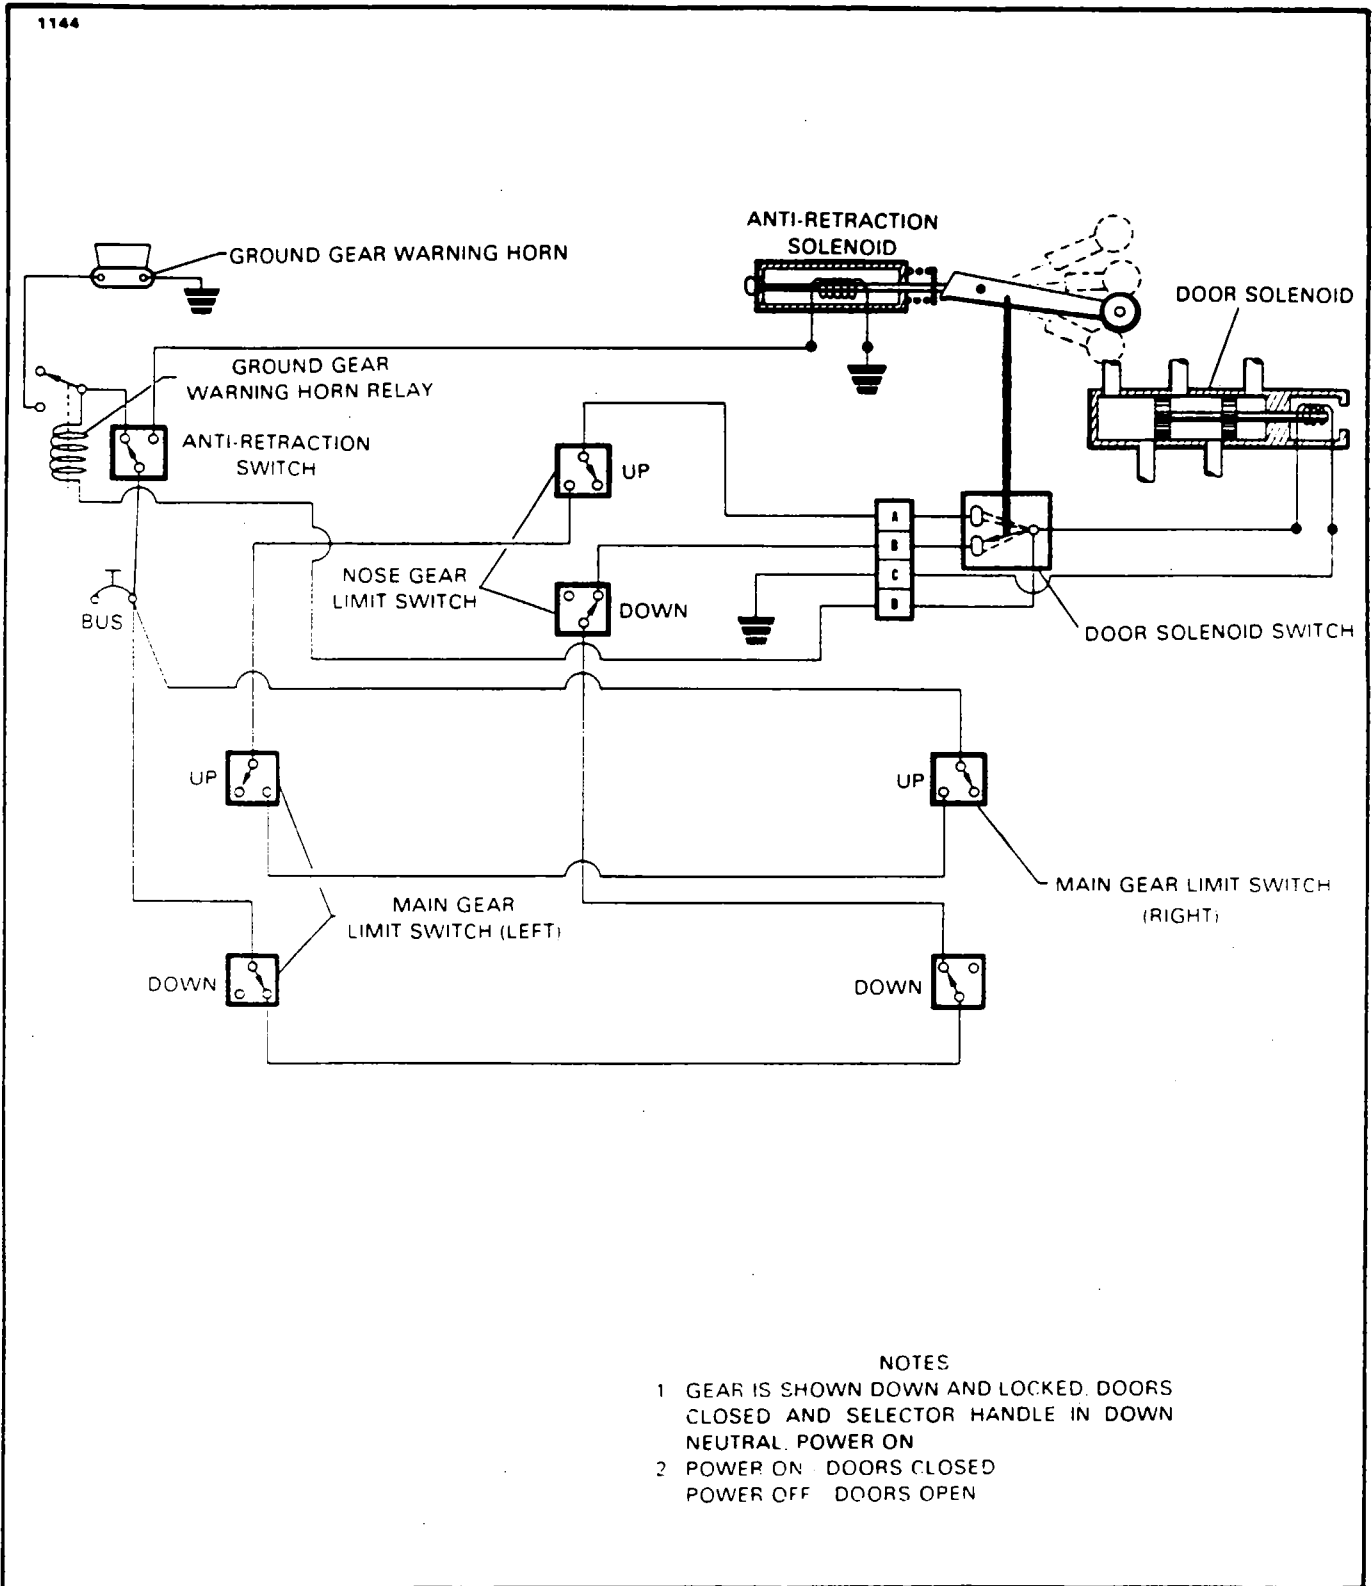

Figure 6-1. Schematic of Power Pack Electrical System
2. REFER TO FIGURE 6-1 FOR SCHEMATIC OF POWER PACK ELECTRICAL SYSTEM.